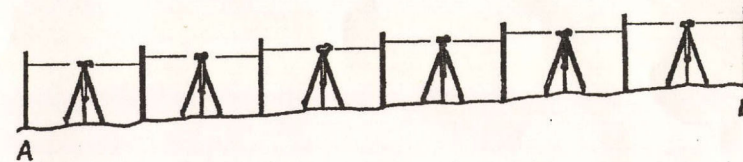

Fig.8
- 5) If the distance between A and B is too long, or the altitude difference of B from A is too large, divide the distance into several regions. Repeat steps 1 through 4 in each region. (See Fig. 8)